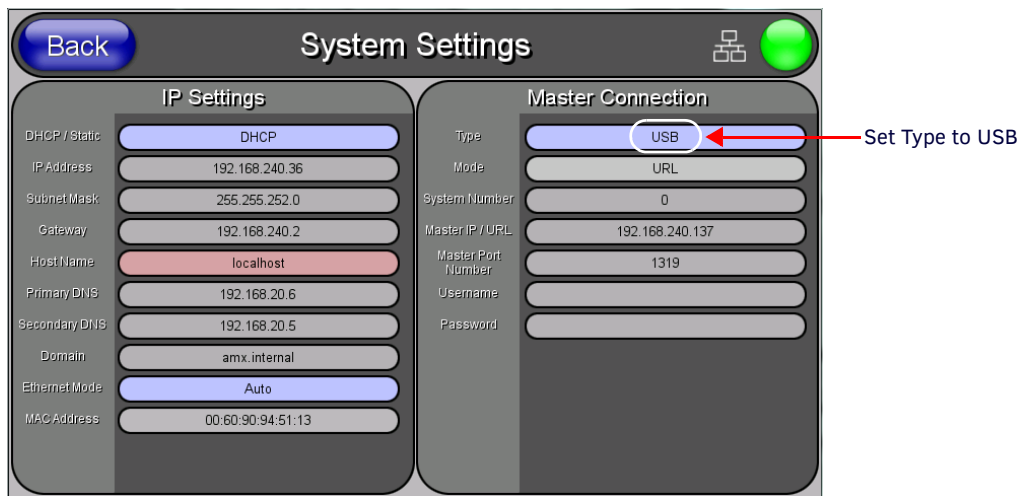

FIG. 55 Touch Panel System Settings Page
4. Press the **System Connection** button to access the *System Connection Setup* page (FIG. 55):